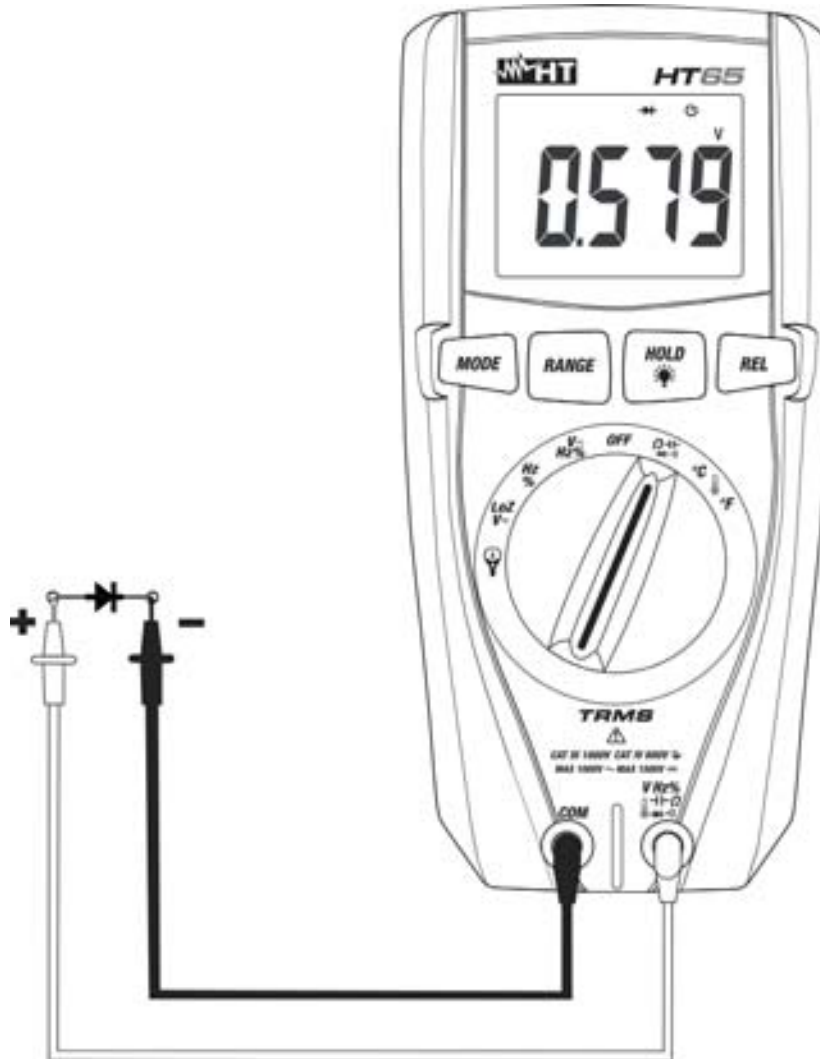

Fig. 7: Use of the instrument for diode test
4. Position the leads at the ends of the diode to be tested (see Fig. 7), respecting the indicated polarity. The value of directly polarized threshold voltage is shown on the display.
6. If the display shows the message “OL”, the terminals of the diode are reversed with respect to the indication given in Fig. 7 or the P-N junction of the diode is damaged.